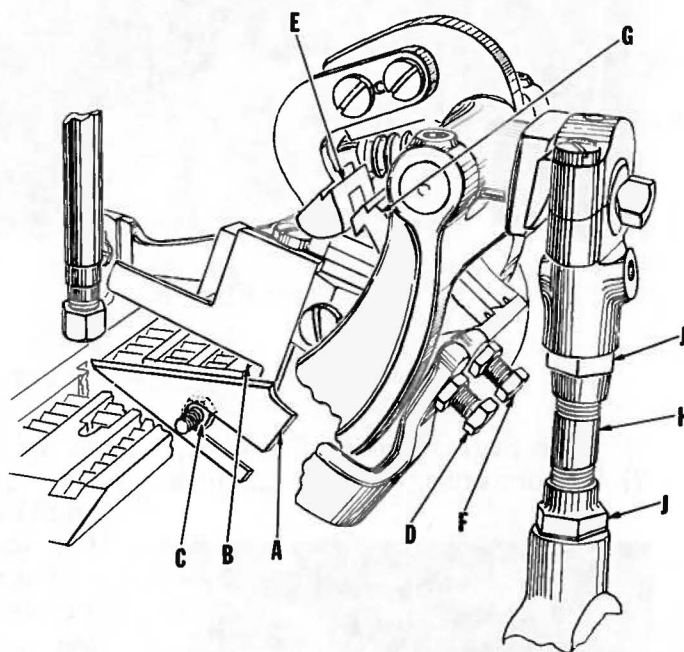
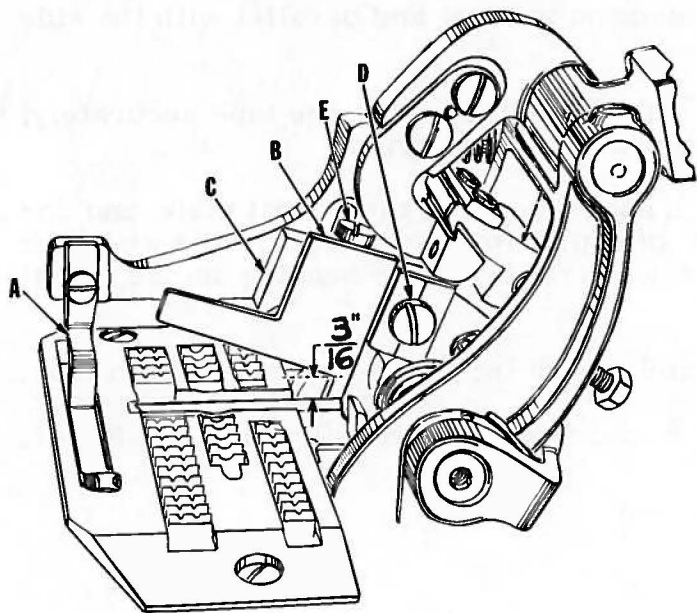
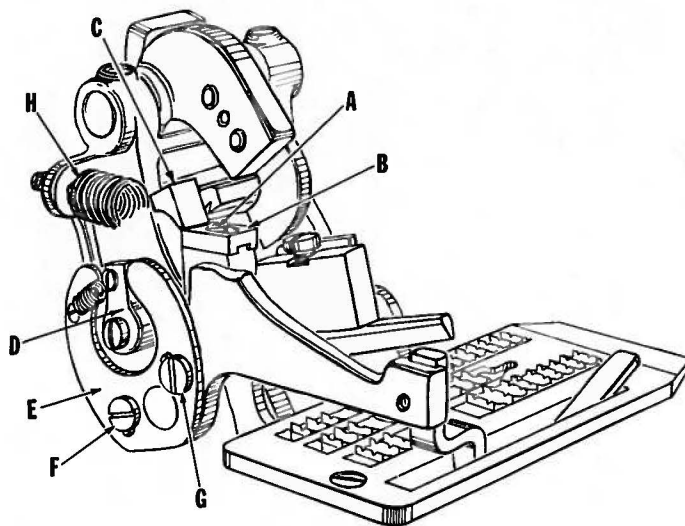

Fig. 8
Fig. 9
Fig. 10
With the throat plate temporarily laid in its seat, set the lower knife (A, Fig. 8) so that the cutting edge is even with the top of the throat plate (B) and tighten in this position with the hexagonal head screw (C). Reassemble needle guard, feed dog and throat plate.
Reassemble actuating shoe (A, Fig. 9). Loosen the hexagonal head adjusting screw (D, Fig. 8) and set, so that the bottom of the actuating shoe is even with the bottom of throat plate (B). Tighten locknut.
Insert upper knife (B, Fig. 9) in upper knife lever (C) and raise it as high as it will go. Tighten clamp screw (D), set stop screw (E) so that it contacts top of knife.
NOTE: As the knives (A, Fig. 8) and (B, Fig. 9) are resharpened, their adjustment is maintained by raising and lowering them in their holders.
Loosen screw (A, Fig. 10) and move shoe (B) to extreme left (or remove if desired). Turn handwheel until pawl (E, Fig. 8) is at its lowest position. Turn screw (F) until ratchet block (G) snaps over pawl (E), then add 1/4 to 1/2 turn more to insure adequate clearance under operating conditions. If screw is turned too far, the mechanism will not work.
If ratchet block and pawl will not engage, it may be necessary to adjust connecting rod (H, Fig. 8) by means of the locknuts (J). The correct center to center distance of the connecting rod should be 4 1/16 inch. Individual tape clippers may require slightly different settings due to slight accumulation of tolerances in manufacture.
The trip dog operating cam (E, Fig. 10) can be retarded or advanced to vary the length of the tape at the start of the closure. Loosen screws (F and G) and turn the operating cam toward the handwheel end of the machine to shorten the distance and in the opposite direction to lengthen the distance. The actuating shoe tension spring (H) is adjustable for various weights of material.
Move shoe (B, Fig. 10) to right (or reassemble if it was removed) so that pawl (C) will rest on top of the extreme right end of shoe. Shoe should have polished end to the right and point of pawl may overlap slightly over outside to insure trigger action during operation of machine.
When actuating shoe (A, Fig. 9) is raised slightly, trip dog (D, Fig. 10) should allow pawl (C) to slide off shoe (B, Fig. 10) and knife should clip tape within 1 1/2 turns or less of the handwheel. Make sure that the knives engage for their full length. When open there should be about 3/16" opening at the pilot end of the knives (See Figure 9).
The position of the tape cutter actuating shoe (A, Fig. 9) controls the length of tape extending beyond the material at the start of the closure.